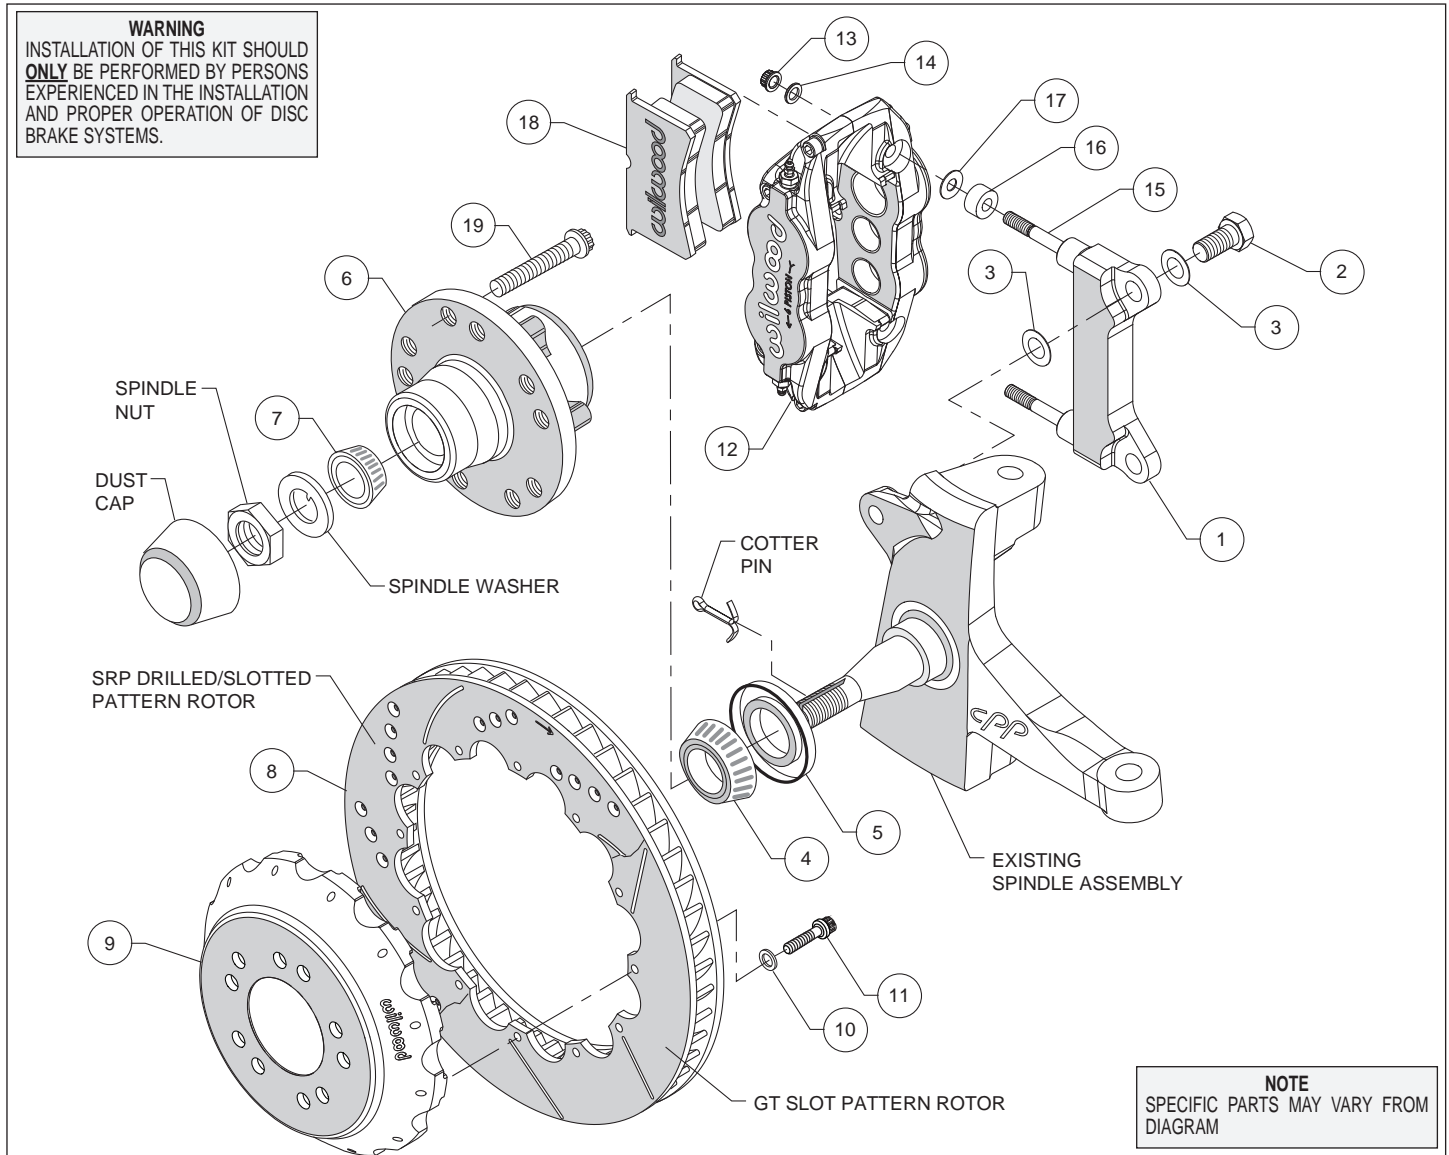
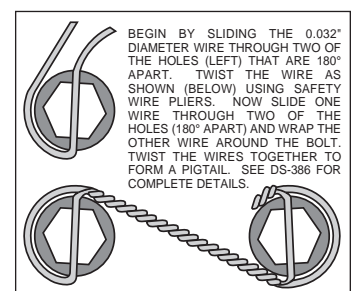

Figure 1. Typical Installation Configuration
Figure 3. Safety Wire Diagram
Assembly Instructions (numbers in parenthesis refer to the parts list and Figure 1 on the preceding pages):
- The caliper mount bracket (1) should initially be installed with clean, dry threads on the mounting bolts. Orient the bracket, as shown in Figure 1, and Photo 1, and install using bolt (2) and washer (3). Initially place one .024" thick shim (3) on each bolt between the bracket and upright, Figure 1. Temporarily tighten the mounting bolts. **NOTE: The bracket must fit squarely against the mount bosses on the upright.** Inspect for interference from casting irregularities, machining ridges, burrs, etc. Later, after the caliper alignment has been checked, the mount bolts will be secured using red *Loctite*® 271.
- Install wheel studs (19) into the hub (6), Photo 2. Torque to 77 ft-lb. **NOTE: There are two five lug patterns in the hub (5 x 4.75 and 5 x 5.00).** Ensure the correct hub stud pattern is being used to fit the wheel application.
- Pack the large inner bearing cone (4) with high temperature disc brake bearing grease (available from your local auto parts store) and install into the backside of the hub (6), Photo 3.
- Install the grease seal (5) by pressing into the backside of the hub (6), flush with the end of the hub, Photo 4.
- Orient the rotor (8) and the hat (9) as shown in Figure 1 and Photo 5. Attach rotor to hat using bolts (11) and washers (10). Using an alternating sequence, apply red *Loctite*® 271 to the threads, and torque to 155 **in-lbs**. For an added measure of security, the bolts may be safety wired using standard 0.032 inch diameter stainless steel safety wire as shown in Figure 3.
- Pack the small outer bearing cone (7) with high temperature disc brake bearing grease and install into hub (6). Slide the hub assembly onto the spindle. Secure using spindle washer and spindle nut, Photo 6. Adjust bearings per OEM specifications. Install saved OEM nut lock (if any) and a new cotter pin.
- Press the dust cap into the hub (6).
- Slide the hat/rotor assembly (8/9) onto the hub (6). **NOTE: The hat must fit flush against the hub face or excessive rotor run out may result.**
- NOTE: This kit contains distinct right and left hand calipers that must be mounted in a specific direction, as described below.** Lubricate the caliper mounting studs (15) with lightweight oil. Initially place one .035" thick shim (17) and one spacer (16) on each stud as shown in Figure 1 and Photo 7. Mount the caliper
(12) onto the bracket (1) using lock nuts (13) and washers (14), Figure 1. Ensure that the caliper is mounted so that the largest pistons are at the rotor exit end of the caliper, in relation to the direction of rotor rotation. Temporarily tighten the lock nuts and view the rotor through the top opening of the caliper. The rotor should be centered in the caliper, Photo 8. If not, adjust by adding or subtracting shims (3) between the bracket and the upright. Always use the same amount of shims on each of the two mounting bolts.